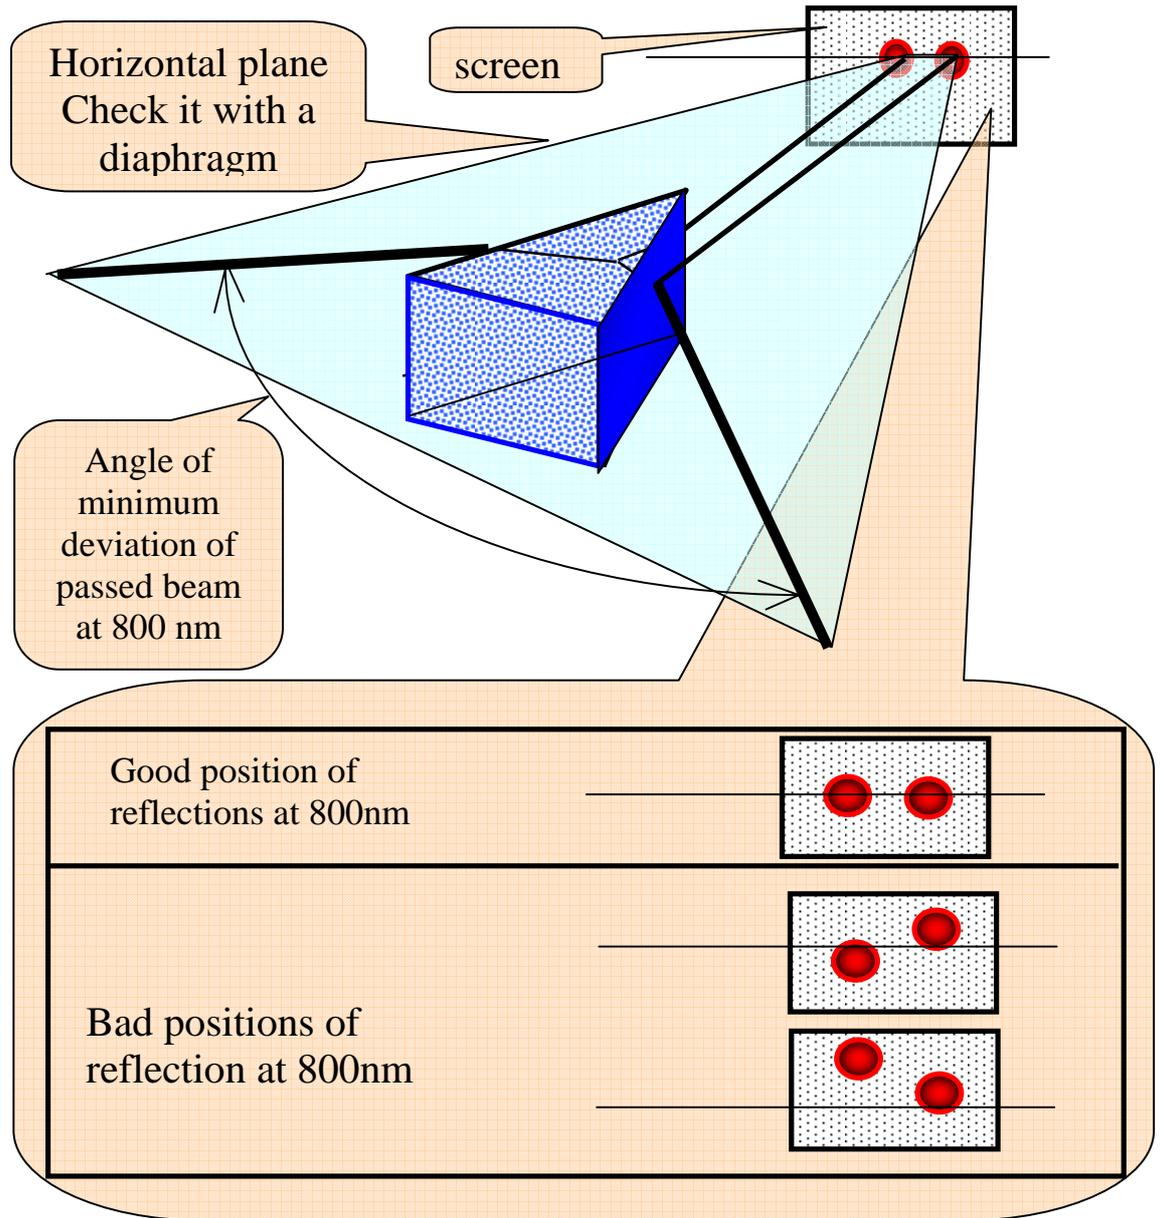

Figure 9. Prisms P1 (P2) alignment.
- *Rotating the prism's base plate adjust prism for minimal deviation of the beam (Figure 9).*